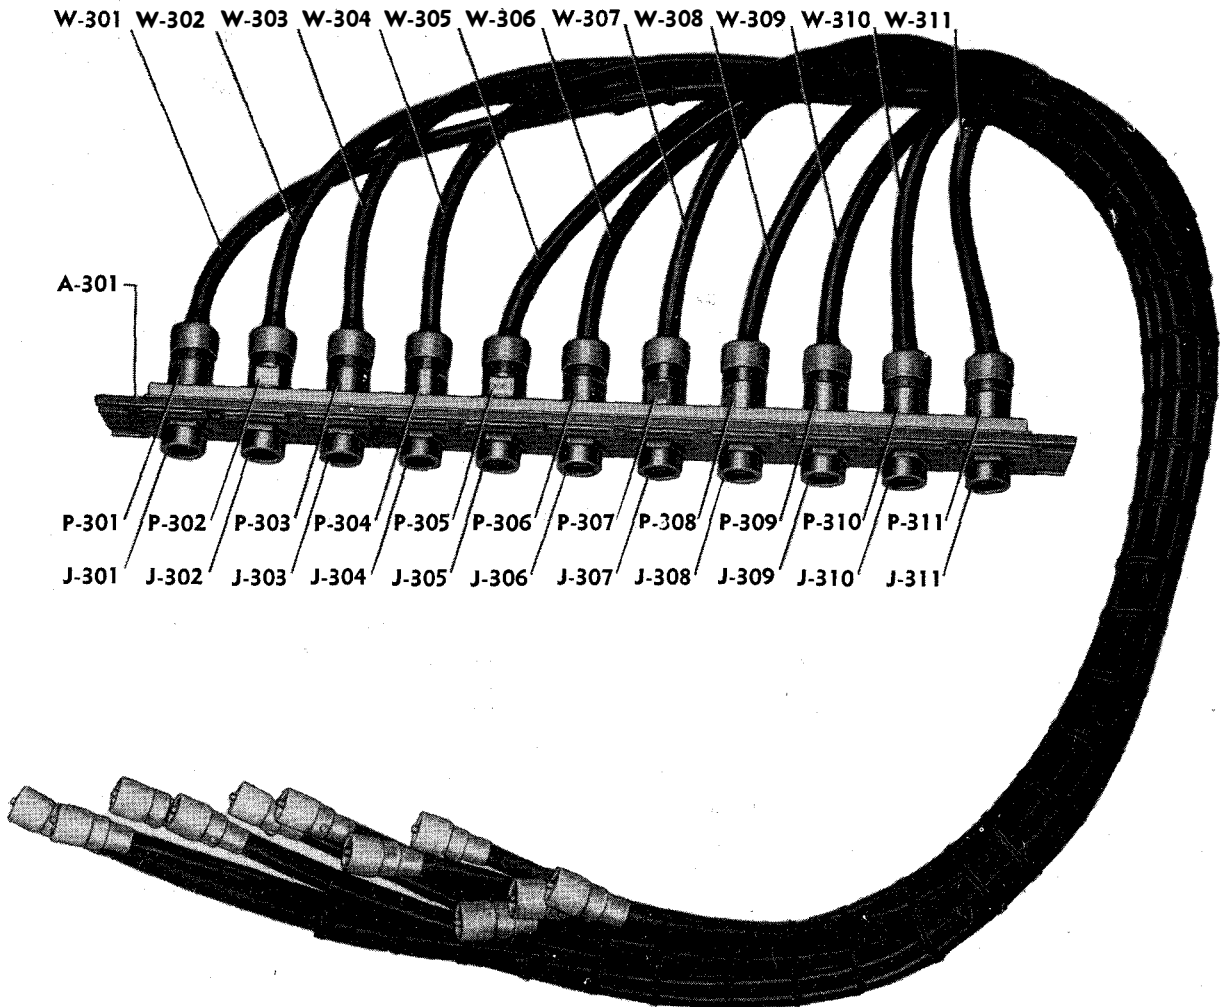

Figure 1-6. Model RXA Antenna Multicoupler Assembly, Jack Panel with Cables Attached
*e.* INTERCONNECTING CABLES.—A complement of 33 cables (coaxial type RG-11/U) of varying length connects the output terminals on the multicouplers to the three lower jack panels. One end of each cable connects to a Navy type 62112 concentric jack termination on the jack panel and the other end connects to a Navy type C-49195 concentric connector plug which is inserted in the type C-49194 receptacle in the multicoupler unit. (See figure 1-6.)